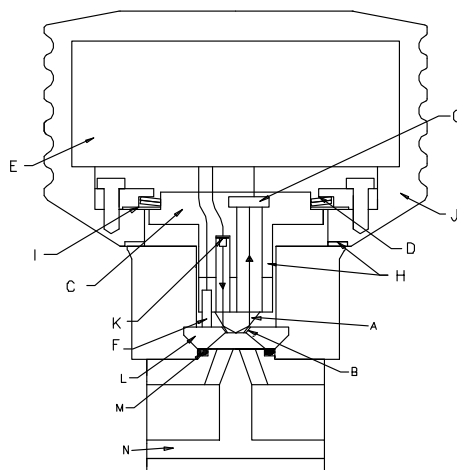

Figure 9.27 The PR-23-M/MS sensor
Figure 9.27 shows the structure of the sensor. The flowcell (N) and the sapphire plate (L) are fixed to the stainless steel sensor with four screws. The flowcell (N) is sealed by a Kalrez O-ring (M). The flowcell prevents any leakage reaching the metal parts, because there is a circular leakage chamber behind the O-ring (M). The chamber connects to a checkport, which has a 1/8" female thread connection.